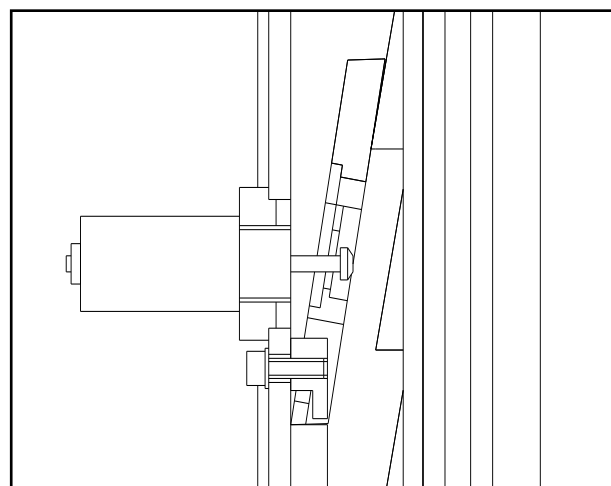

Fig. 28
- ◆ Install the safety devices including electromagnet, automatic locking board and hock board inside both columns. (**Fig. 28**) The first step should install the safety devices under both columns.
- ◆ Install the screw according to **Fig. 28**.